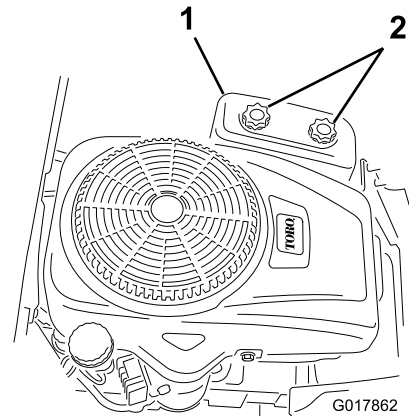

Figure 26
- Remove the air cleaner cover by unscrewing the 2 knobs (Figure 26).